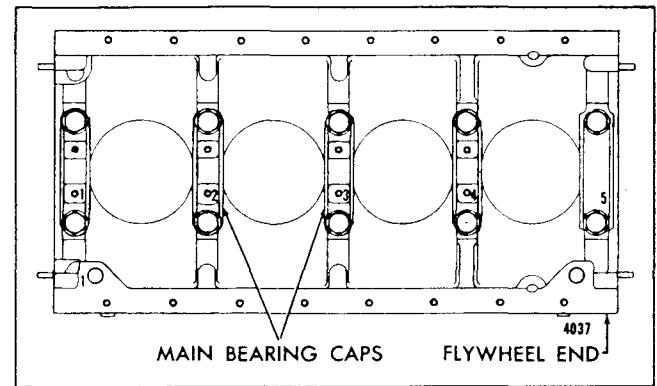

Fig. 14 - Typical Cylinder Block Markings
NOTE: Bearing caps are numbered to correspond with their respective positions in the cylinder block. It is imperative that the bearing caps are reinstalled in their original positions to maintain the main bearing bore alignment. The number of the front main bearing cap is also stamped on the face of the oil pan mounting flange of the cylinder block, adjacent to its permanent location in the engine as established at the time of manufacture. The No. 1 main bearing cap is always located at the end opposite the flywheel end of the cylinder block (Fig. 14).
2. If a new service replacement block is used, stamp the engine serial number and model number on the upper rear corner of the In-Line block or the top right-hand corner of the V-type block. Also stamp the position numbers on the main bearing caps (Fig. 14) and the position of the No. 1 bearing on the oil pan mounting flange of the block.